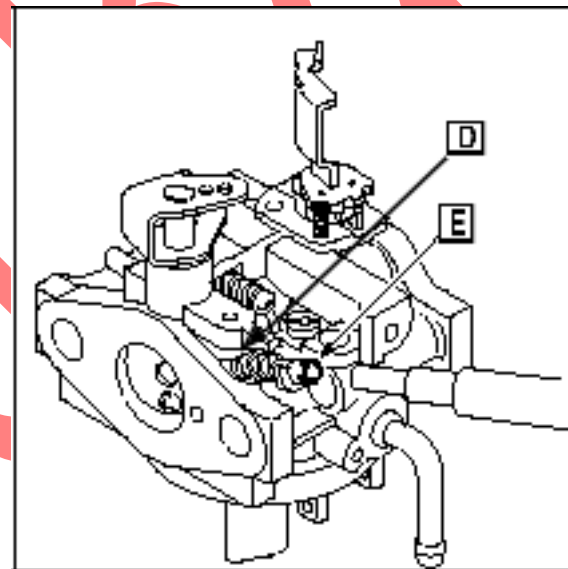

Fig. 93
Install idle mixture screw (D) and spring Fig. 93. Turn screw in until it just seats. Do not tighten.
Install limiter (E) Fig. 93), if used.